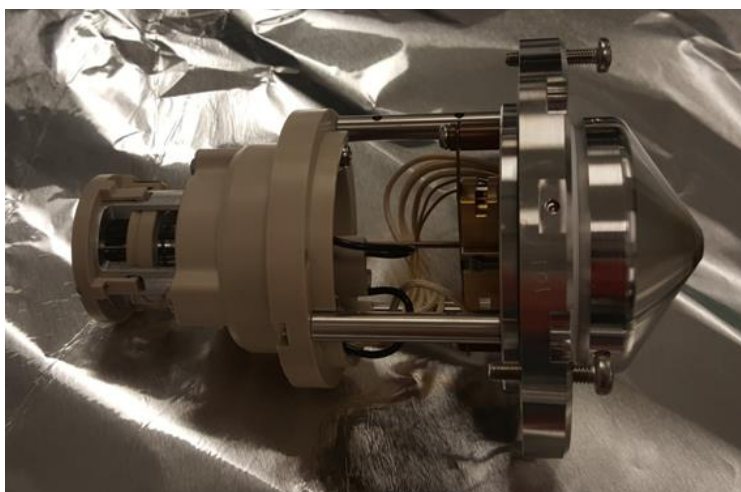

Figure 110: View of removed optics
- 7) Set in on a piece of aluminum foil or other sterile surface. See Figure 110.